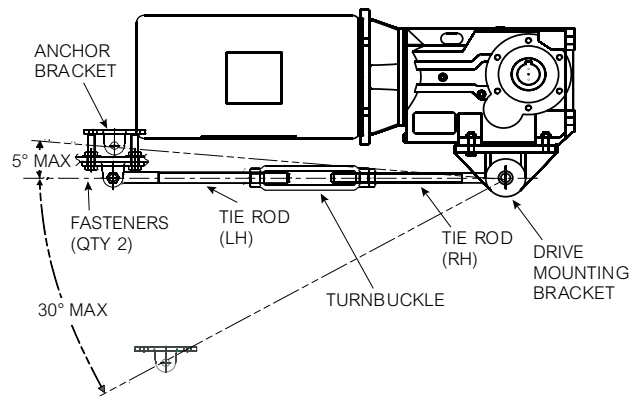

Figure 7 — Torque Arm Slope
- 10.0 Mount the anchor bracket to the conveyor support frame using the fasteners provided. Install bolts, washers and lock nuts, apply Loctite 242 or equivalent to threads. Tighten either the 3/8-16 or 1/2-13 fasteners to 35 and 84 lb-ft, respectively (see Figure 7). Modifications to the support frame may be necessary to achieve the torque arm slope and parallel mounting requirements shown in Figures 7 and 8.
The position of the torque arm may vary within the range shown in Figure 7. The length of the rod ends may be adjusted to fit the installation. The maximum and minimum torque arm lengths are provided in Table 1. For torque arm mountings other than shown in Figure 7, refer to Rexnord.